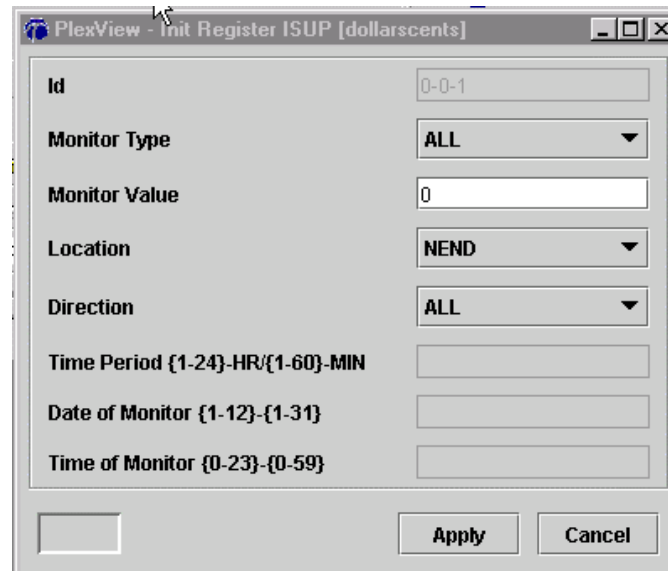

Figure 3. Initialize PM Registers for ISUP Messages
9. Clear the counters for ISUP message statistics received from a destination point code. Double-click the switch name in the switch status panel to select it for the main panel. Double-click *SS7* and then *Point Codes*. Right-click an interface and select *Init Register*. Make changes and then click *Apply*. Refer to Figure 3.